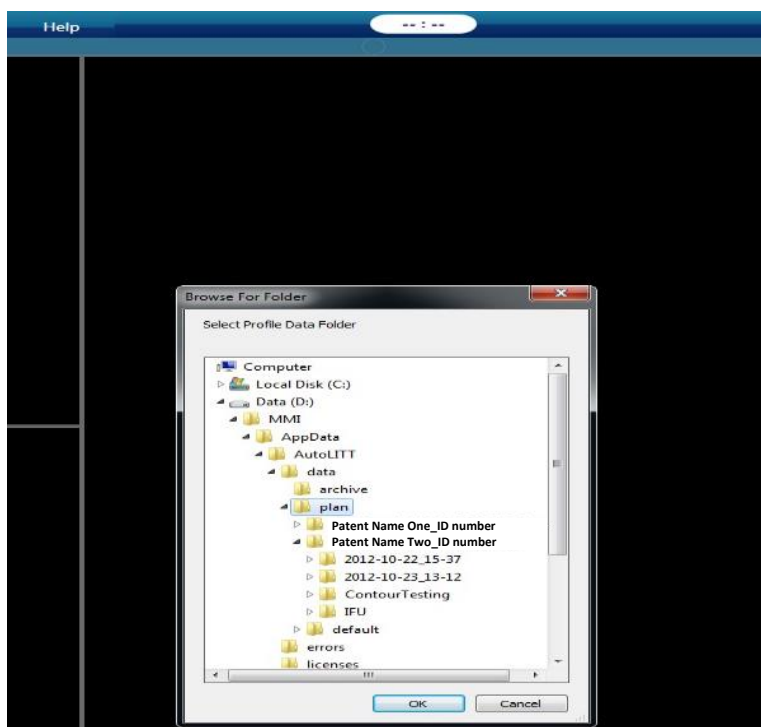

Figure 8.1.52: Finding the Saved Plan
- Select the saved plan by clicking the patient name followed by the correct treatment profile number defined by the date/time string (see Figure 8.1.52).